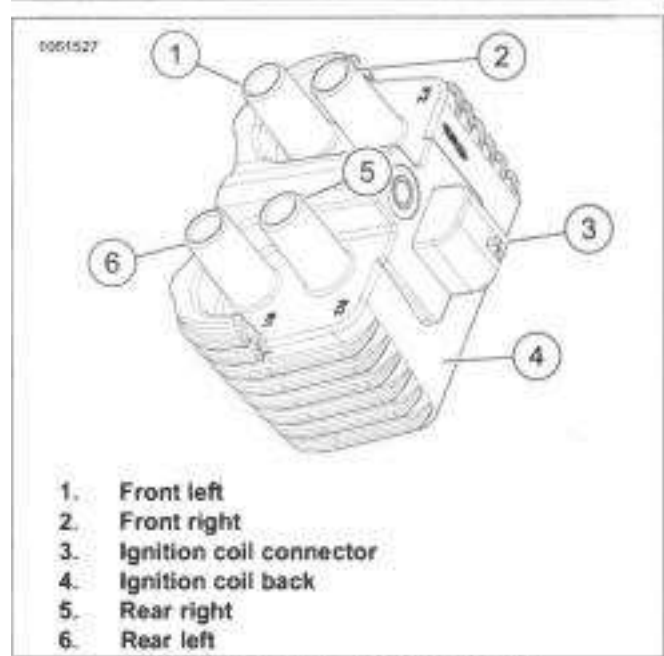

Figure 7-12. Ignition Coil Connector
1. See Figure 7-12. Disconnect ignition coil connector (3).
3. Connect spark plug cables (1). See SPARK PLUG CABLES (Page 7-13)
4. See Figure 7-12. Connect ignition coil connector.